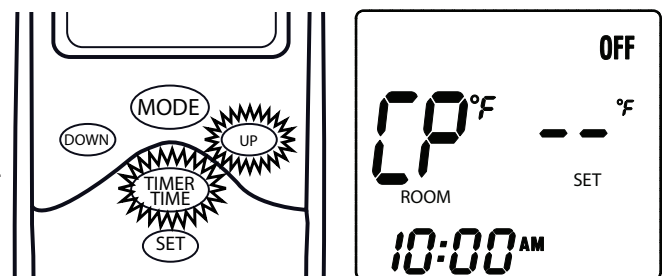

Fig. 23 Child Protection (CP)
1. To activate the “LOCK-OUT” feature, **press and hold** the UP and TIMER/TIME buttons, together, for 5 seconds. The letters **CP** will appear in the TEMP frame on the LCD screen (Fig. 23).